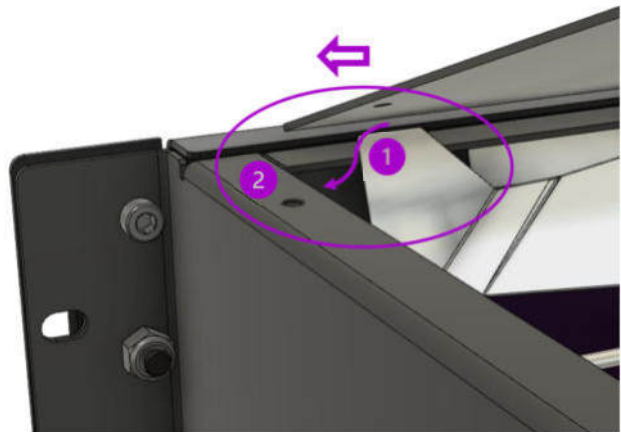

Fig. 21
2. Slide the upper housing lid to the left. Slide the front left mirror edge (1) underneath the left housing flange (2). (Fig. 21)